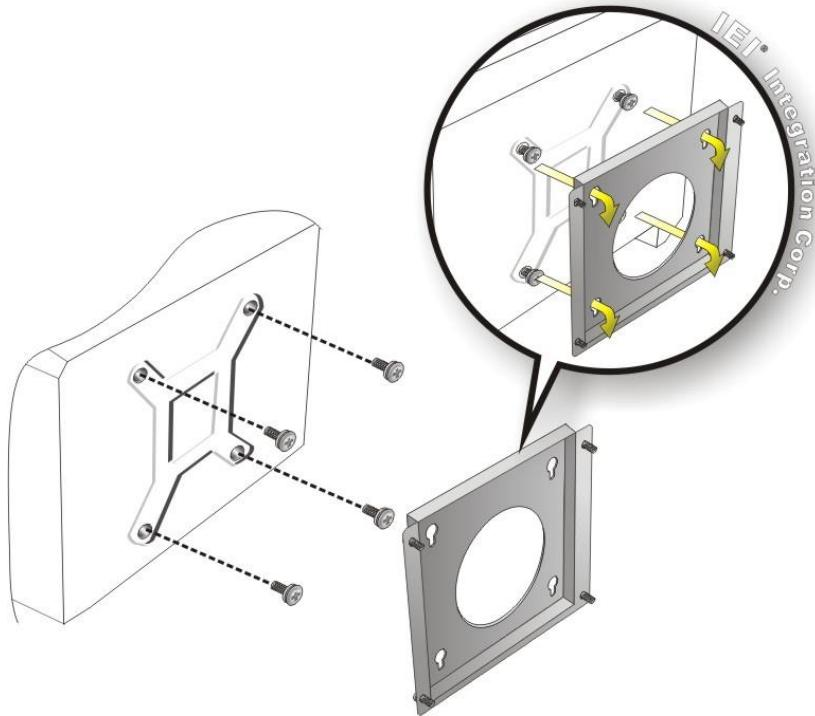

Figure 3-9: Mount the Chassis
Step 6: Insert the four monitor mounting screws provided in the wall mounting kit into the four screw holes on the real panel of the monitor and tighten until the screw shank is secured against the rear panel (**Figure 3-9**).
Step 8: Carefully insert the screws through the holes and gently pull the monitor downwards until the monitor rests securely in the slotted holes (**Figure 3-9**). Ensure that all four of the mounting screws fit snugly into their respective slotted holes.